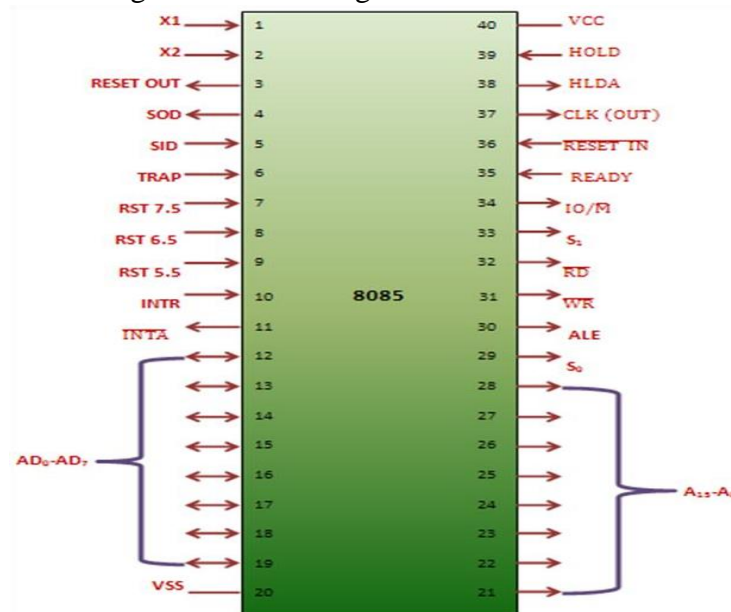

Figure 1.4 Pin Diagram of 8085 Microprocessor
1.3 8085 Pin details. The diagram shown in Figure 1.4